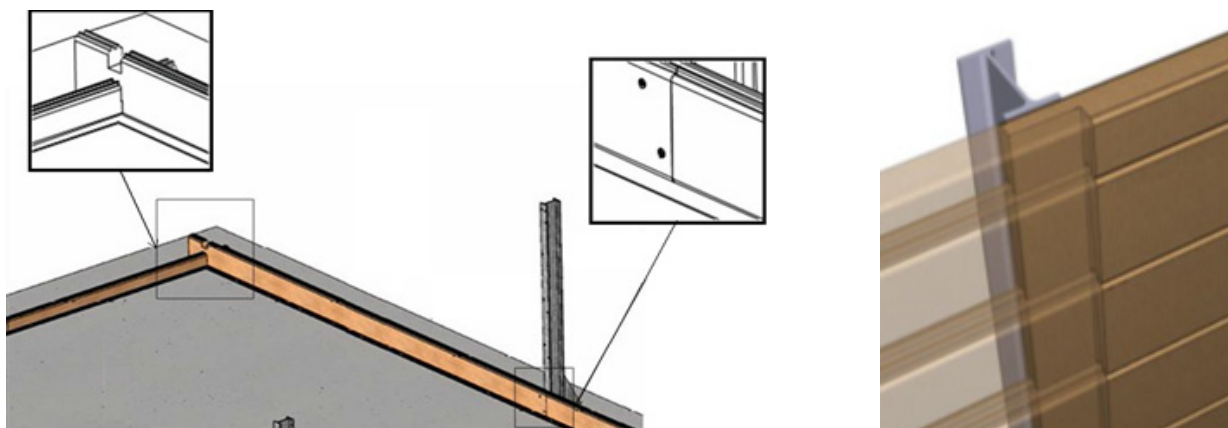

Figure 9 – Screwing the slats together
- screw them together as shown in *Figure 9* using 2 screws per slat pair, and on the two sides comprising 5 full slats and one half-slat, that is a total of 24 countersunk 5 x 40 A4 SS torx screws threaded over 25 mm (bag B) .